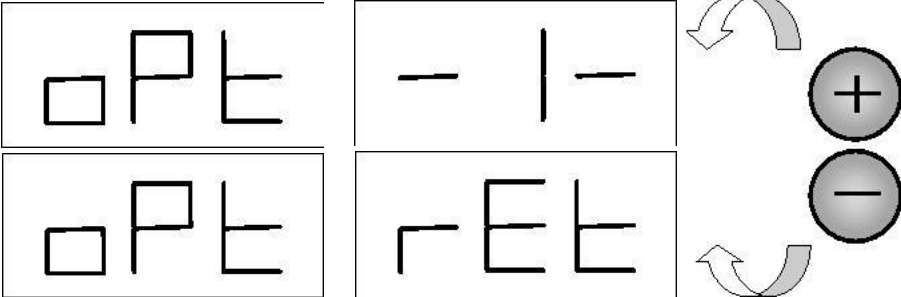

Fig. F5.1 Access to the Optimisation programme
1. Press [F+P4]  + . The display will show the options shown in figure F5.1. Press [P4] or [P5]   and choose the option oPt-1- to continue, or the option oPt rEt to return to the operating programme. Press [F+P4]  +  to confirm the chosen option;